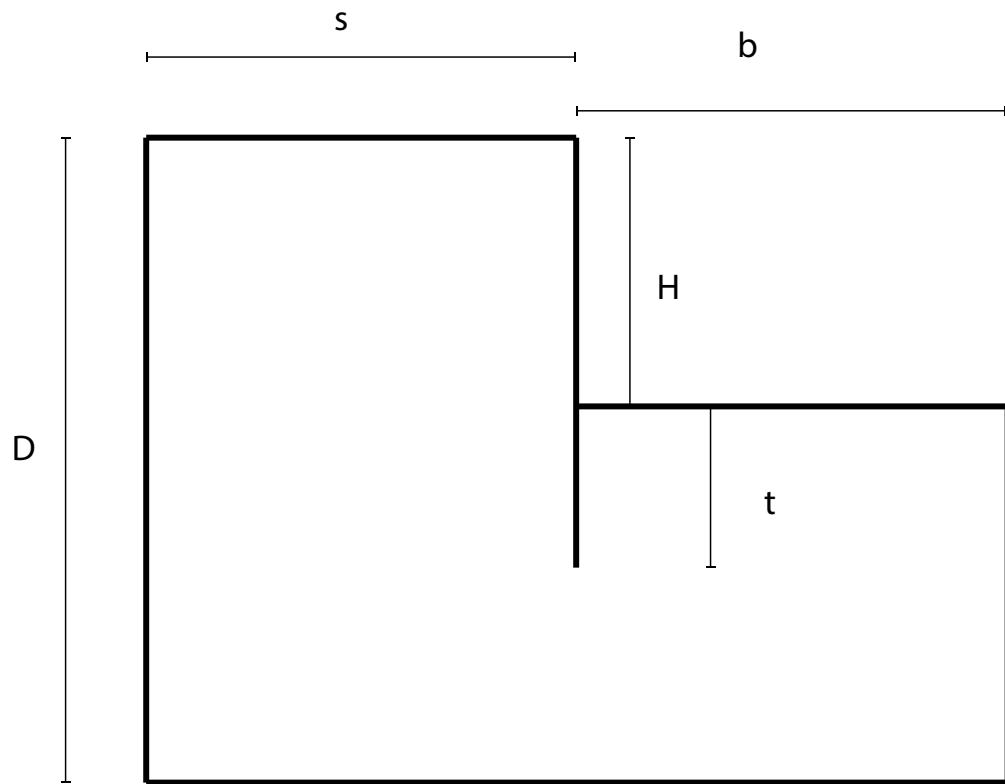

Figure 1: Sketch of a sheet pile wall.
- The sheet pile wall —which is separating the excavation from the ground level (see figure 1)— is impermeable (note: consider a small thickness of the wall when creating the mesh in order to impose this boundary condition).
In the first week, you have meshed the problem for arbitrary dimensions (see figure 1), now, you are asked to compute the solution (piezometric head + flux at all the nodes) for the following two particular cases: